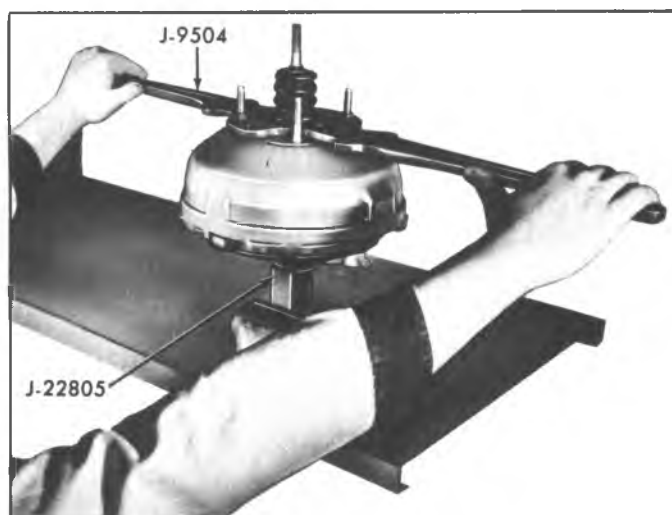

Fig. 2B--Unlocking Front and Rear Housings
2. Attach base of Holding Fixture J-22805 to front housing with nuts and washers and draw down tight to eliminate damage to studs. Clamp base in a bench vise with the power section up (fig. 2B).
- a. **Straight Mounting Bracket (Fig. 2B)** - Place Spanner Wrench J-9504 over studs on rear housing and attach with nuts and washers. Draw nuts down tight to eliminate bending or damaging of studs.